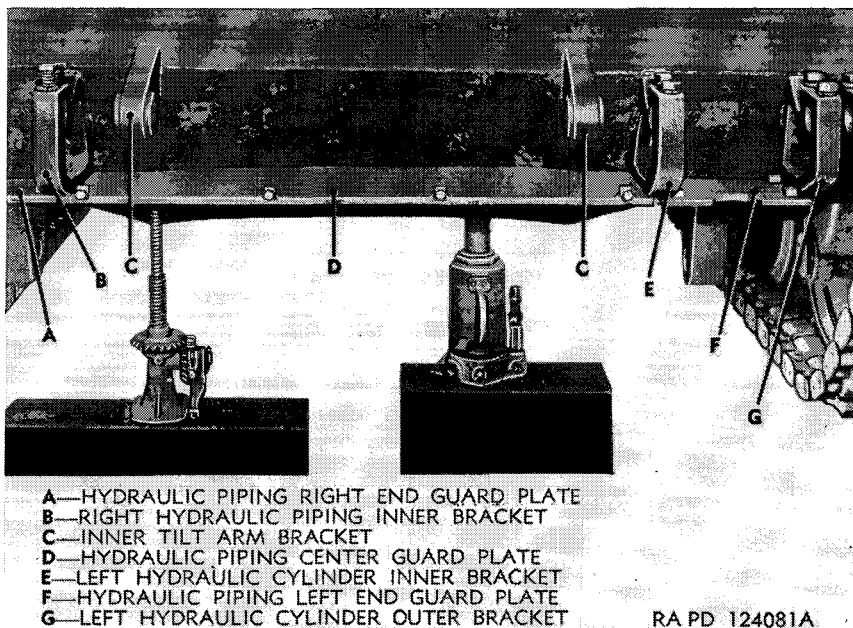

Figure 12. Using jacks to hold hydraulic-piping center guard plate for welding.
h. Place the hydraulic piping center guard plate up against the under sides of the two hydraulic-cylinder-inner brackets with the straightedge having welded-on mounting blocks at the front, and the back edge flush up against the vehicle hull (fig. 12).